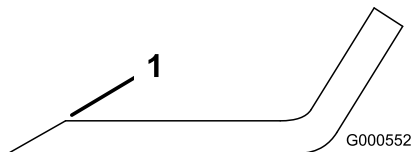

Figure 108
1. Use a file to sharpen the cutting edge at both ends of the blade (Figure 108).
Note: If the blade is not balanced, file some metal off the end of the sail area only (Figure 108).